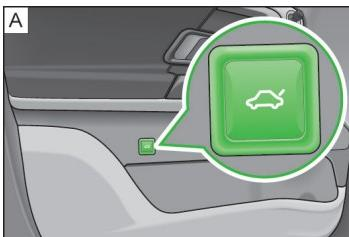

Fig. 35 Unlock the boot lid/boot lid handle
▶ Press the button in the driver's door » Fig. 35 - A and lift the boot lid in the direction of the arrow » Fig. 35 - B.
▶ Press the handle and open the tailgate in the direction of the arrow » Fig. 35 - B.